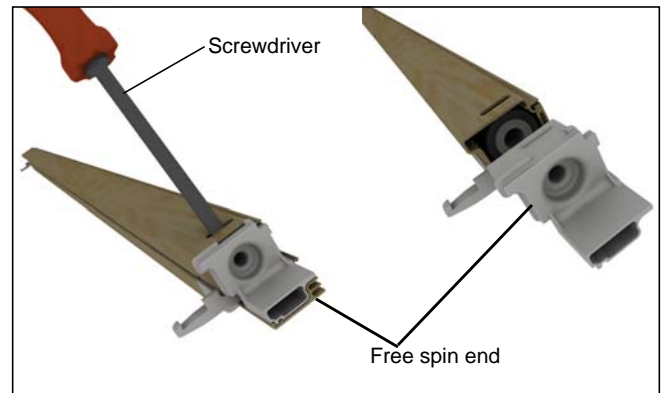

Figure 25
3. Using a flat screwdriver, apply pressure to the open slot of the free spin end (opposite the ratcheting end) and remove. It is normal to hear an uncoiling noise after the end is removed. See figure 25.